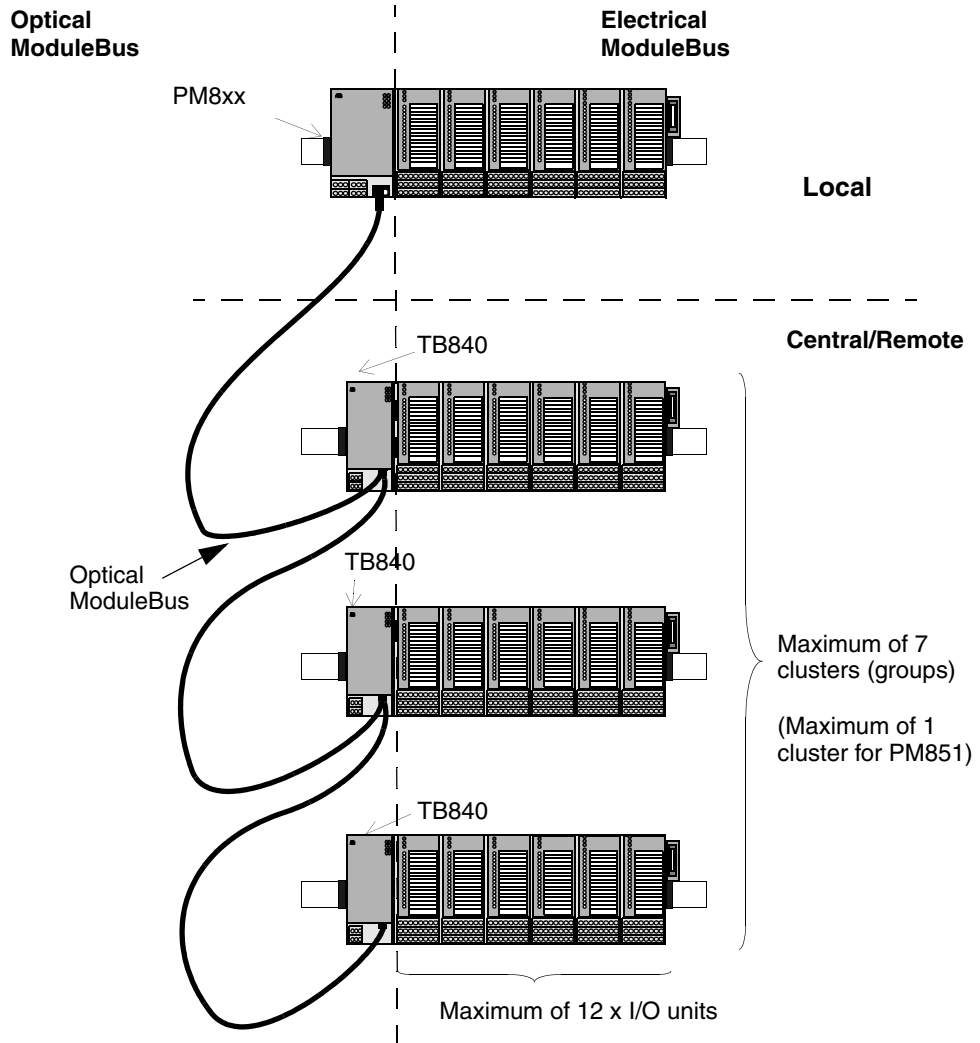

Figure 59. Electrical and Optical ModuleBus Configuration
- Electrical ModuleBus, (see Figure 59 on page 168) – 1 cluster (group), with a maximum of 12 S800 I/O units connected.
- Optical ModuleBus (see Figure 59 on page 168) – 7 clusters (groups), with maximum  $7 \times 12 = 84$  S800 I/O units connected.